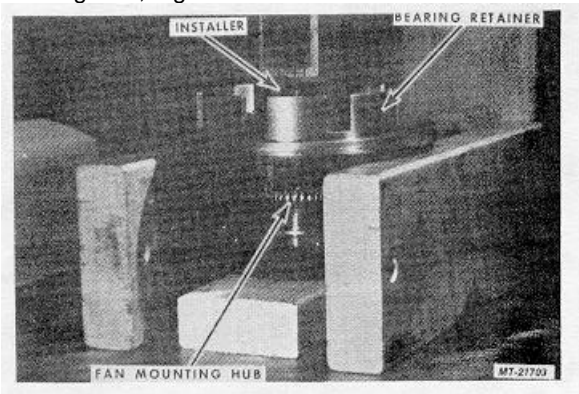

Fig. 11
8. Using short end of Installer SE-2782-1, press out Fan Mounting Hub, Fig. 11.